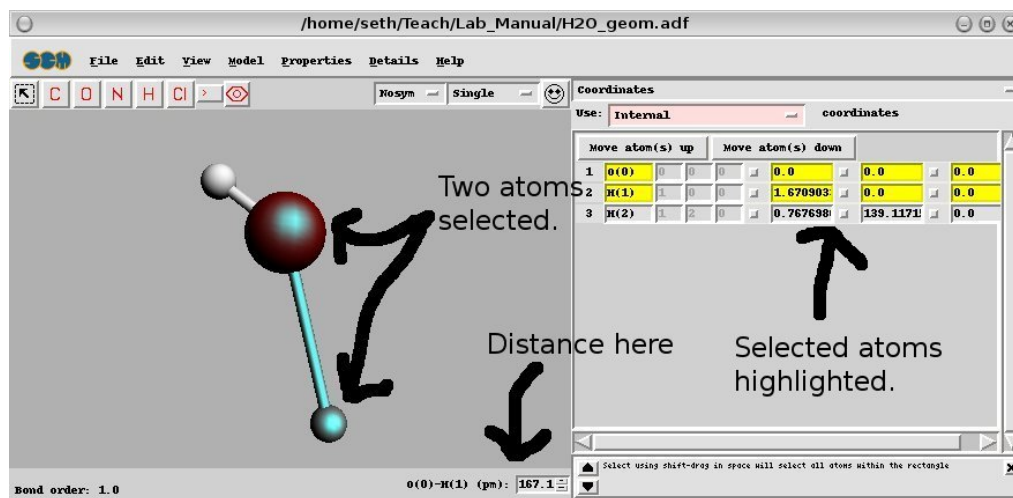

Figure 4.2: Measuring the distance between two atoms.
**Bond Length** Select two atoms. The distance between the two atoms is printed at the bottom right of the build window (figure 4.2).
Alternatively, if the *Model: Coordinates* menu option has been chosen then the Cartesian coordinates or Z-matrix can be edited directly. Note that if an atom or atoms are selected in the build window then the geometrical parameters of those atoms are highlighted (figure 4.2). The selected atoms can be moved up or down in the overall list which may be important when creating a Z-matrix.